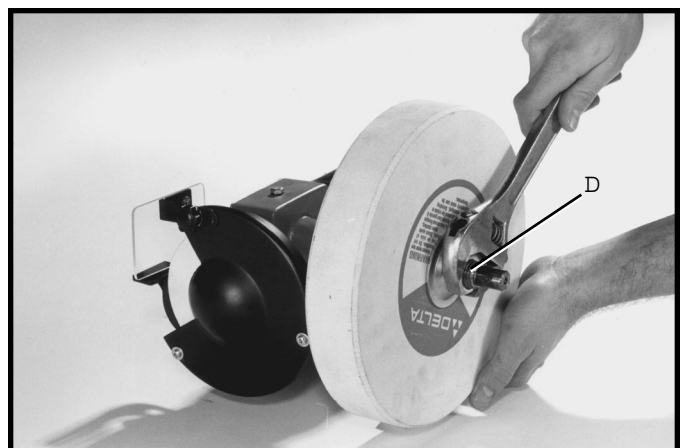

Fig. 21
Hold grinding wheel and turn arbor nut (D) Fig. 21, counterclockwise, when viewed from wheel end of shaft to loosen and remove nut (D). IMPORTANT: WHEN INSTALLING THE NEW WHEEL, DO NOT OVERTIGHTEN THE ARBOR NUT (D).